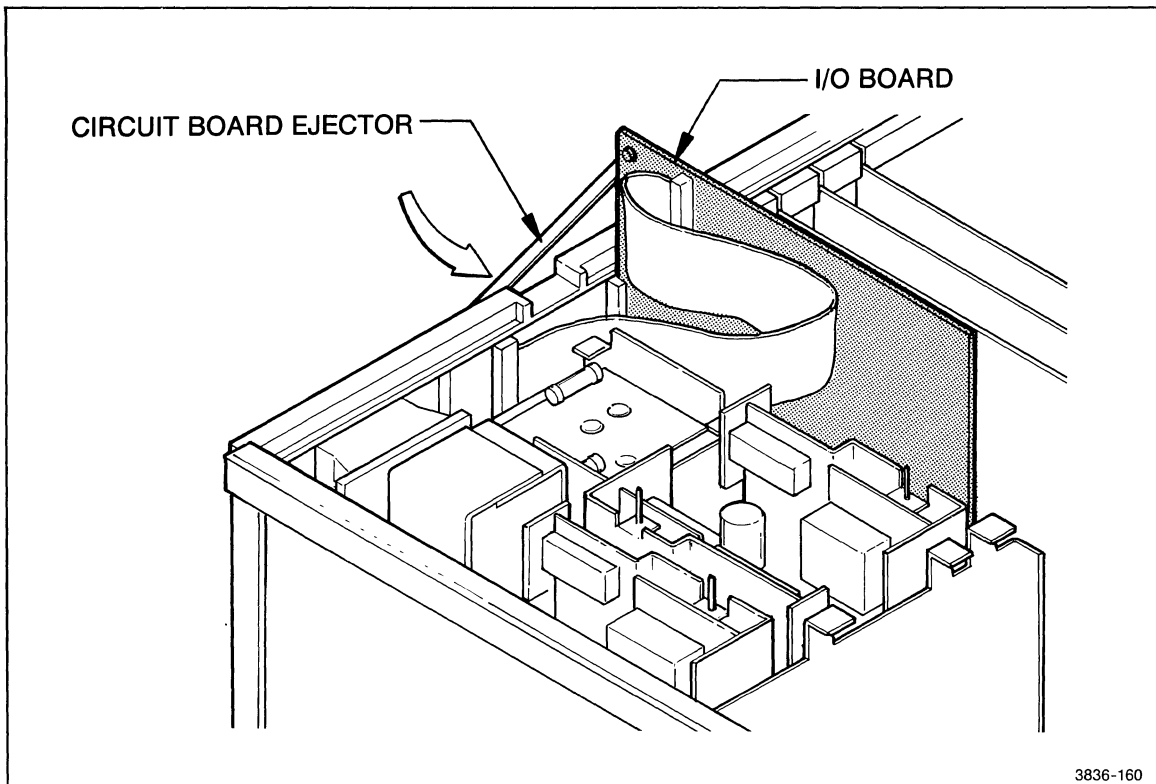

Figure 6-8. Removing the I/O board. (This figure shows the Monochrome DAS. The Color DAS is similar.)
4. Reattach the I/O connector panel to the back panel. It is secured by four screws (4-40 x 0.312). Refer to Figure 6-8 for placement of the ribbon cable along the I/O board.
Figure 6-8 illustrates the procedure for removing the I/O circuit board.